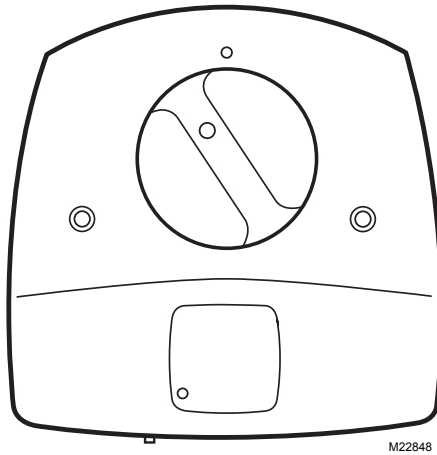

Fig. 8. Position bulb for insertion back into the lamp base.
7. Insert the bulb into the base with the lamp light indicator at the eleven o'clock position. Continue pushing and gently rotating counterclockwise until the lamp handle inserts fully into the base. See Fig. 8.
7. Insert the bulb into the base with the lamp light indicator at the eleven o'clock position. Continue pushing and gently rotating counterclockwise until the lamp handle inserts fully into the base. See Fig 8.